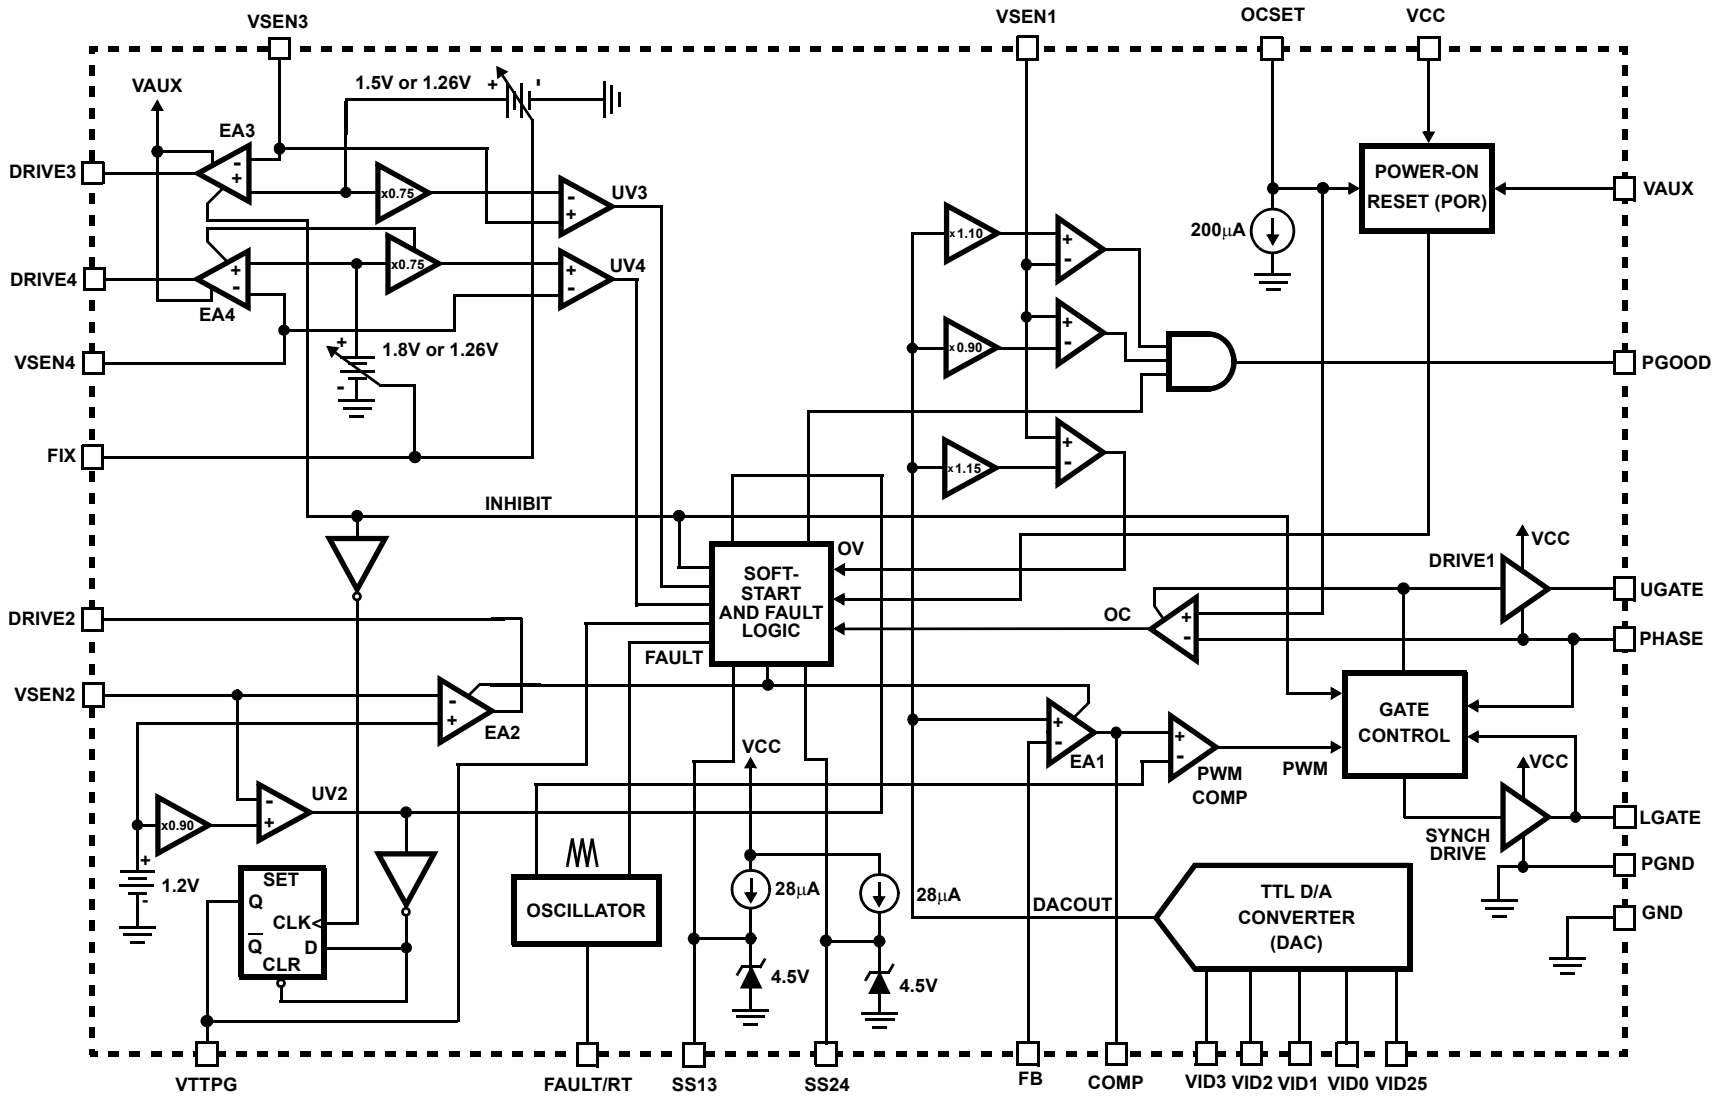

FIGURE 1.
**Electrical Specifications** Recommended Operating Conditions, Unless Otherwise Noted. Refer to Figures 1, 2 and 3
**Electrical Specifications** Recommended Operating Conditions, Unless Otherwise Noted. Refer to Figures 1, 2 and 3 **(Continued)**